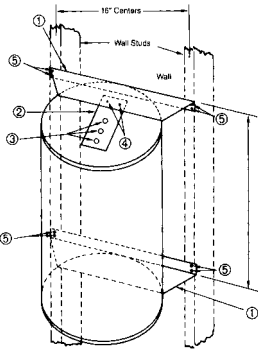

Fig. 1
1. Locate wall studs in the area where water heater is to be mounted. Wall support brackets are designed for 16" wall stud centers. Refer to Figure 1.
2. Determine the desired height of the water heater above the floor. Position one wall support bracket (1), with flange UP at the determined bottom point of the water heater. Level the bracket and fasten it securely to the wall studs with four lag bolts  $\frac{1}{4}$ " x 2 $\frac{1}{2}$ " (5).
3. Position the upper wall bracket (1), flange DOWN, so the inside dimension "X" between the two wall support brackets agrees with the water heater heights shown in the table. Level the bracket and fasten it securely to the wall studs with the four remaining lag bolts  $\frac{1}{4}$ " x 2 $\frac{1}{2}$ " (5).